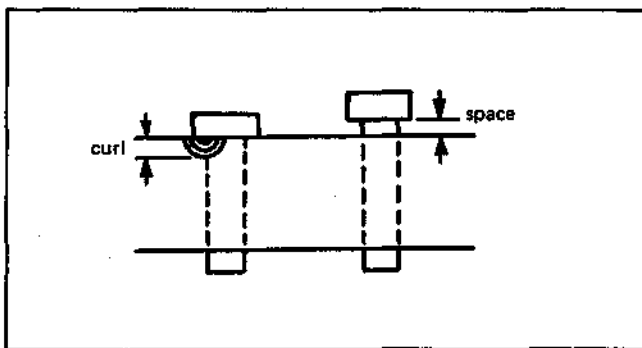

Fig. 4-16
10) Turn No. 4 guide clockwise while observing No. 5, No. 6 guide flange sections with a dental mirror, and check that curl and spaces are within the specifications. (Fig. 4-16)